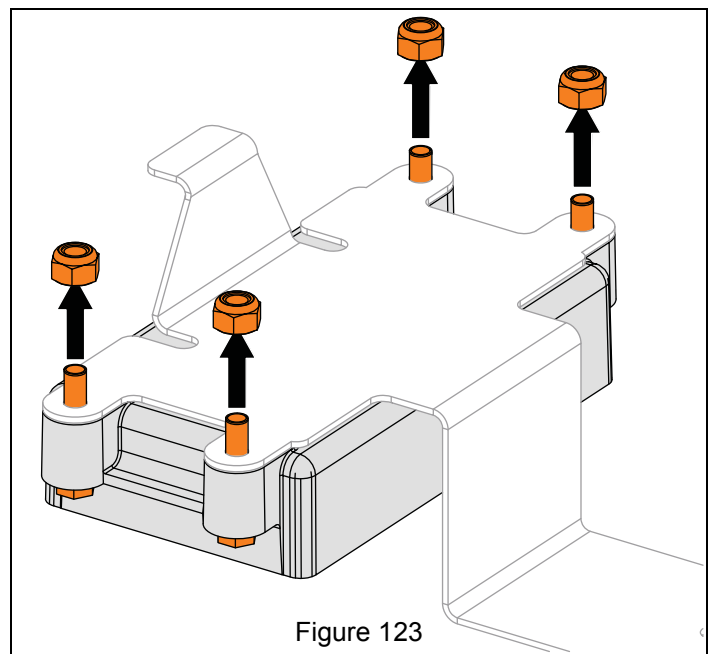

Figure 123
5. Remove hardware retaining ECU to bracket and remove ECU. See Figure 123.
1. Secure ECU to bracket with original hardware. See Figure 123.